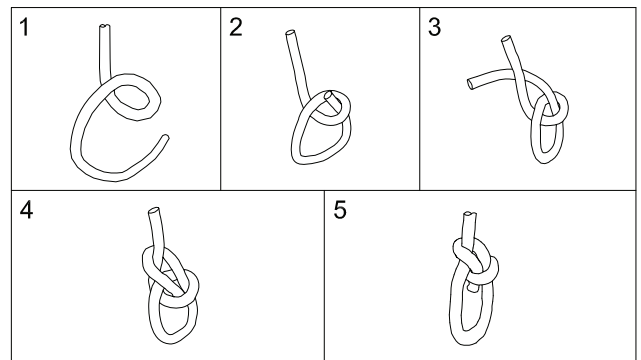

FIGURE 2
- Bowline knot lifting device (rope) to handles. See Bowline knot detail (See Figure 2).